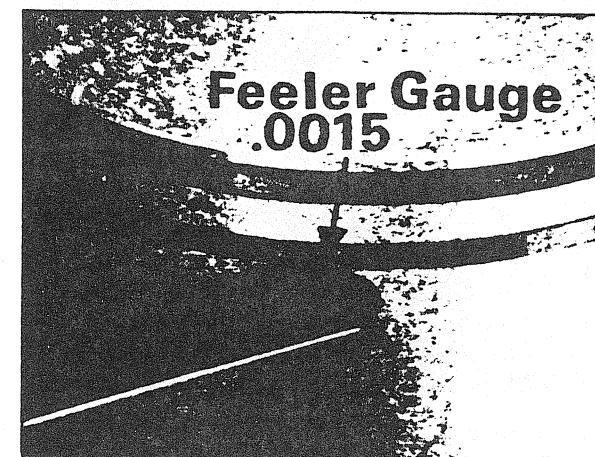

FIGURE 26
**NOTE:** The clearance between the edge of ring and the edge of piston groove should be .0015" (fig. 26).